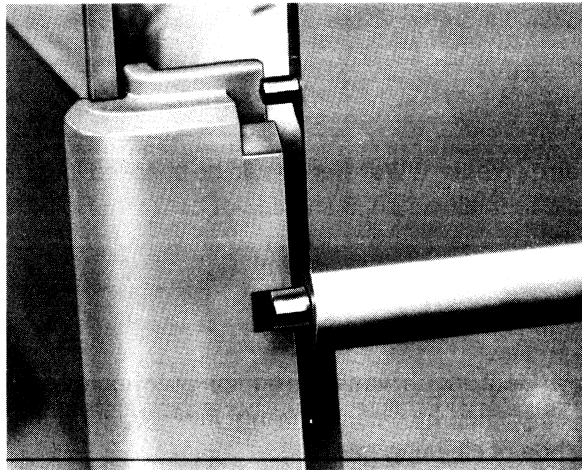

FIGURE 4.2 REMOVING BASSINET BACK PANEL
2. Remove the Bassinet Back Panel (Figure 4.2) by raising it straight up until the bottom pins are adjacent to the slots in the corner brackets.